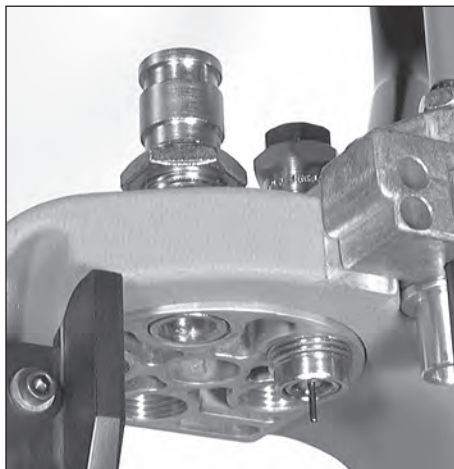

FIG 35
2. Screw the powder die into Station 2. Stop when the die is flush with the bottom of the toolhead **FIG 35**.